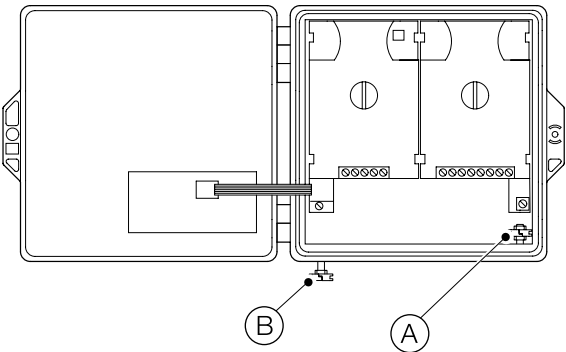

Figure 9 AWT210 ground connections
Referring to Figure 9, ground connections are provided: internally (A) and externally (B).